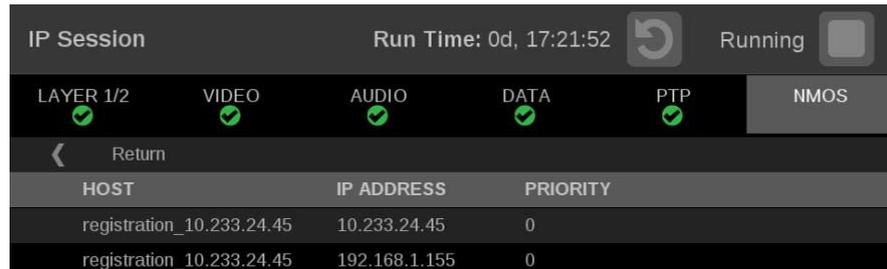

Figure 142: Registration Server List display
- **Registration server:** Shows the **Host Name** and **IP Address** of the registration server. (See Figure 142.)